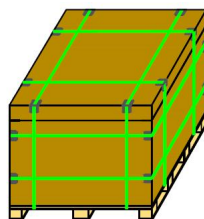

Figure 5-1 Requirements for temporary storage at the installation site
- When storing modules in a warehouse at the project site, please ensure that the storage environment is less than 85% humidity, the temperature range is  $-40^{\circ}\text{C} \sim +50^{\circ}\text{C}$ , and the modules are statically stacked for 1 box (as shown in Figure 5-1)